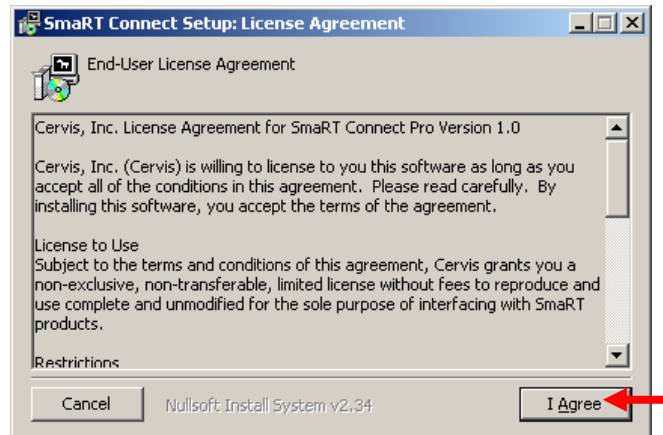

Figure 1
2. Invoke the program (double-click). You are asked to agree to the EULA. Click the **I Agree** button shown in Figure 1.